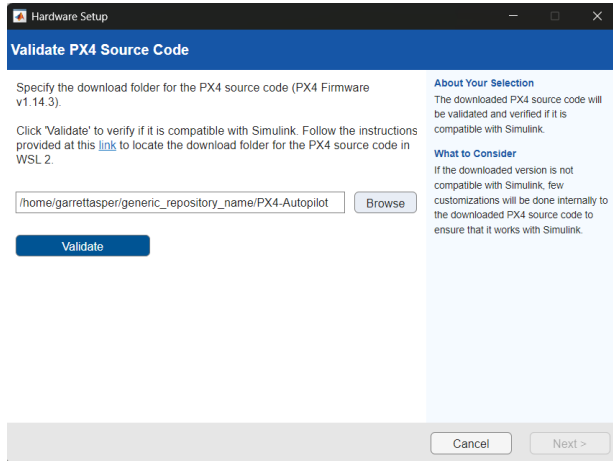

Figure B.5: Screenshot of the PX4 source code validation window.
6. As shown in Figure B.5, validation checks will be run on the PX4 source code installed using the instructions in Section B.2.2. Given that `<WSL_username>` is the username used during WSL setup, and `<px4_repo_name>` is the name of the folder that houses the cloned repository, the file path used in this screen must be the Linux path